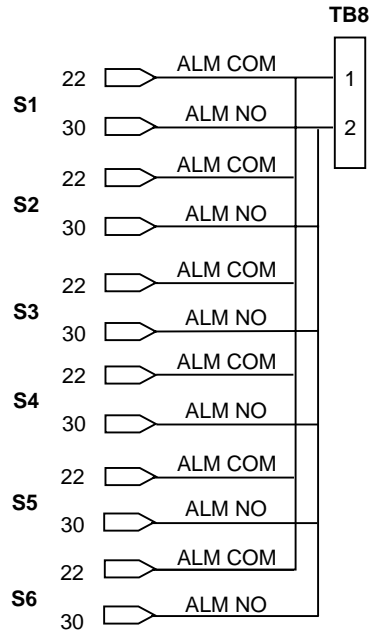

Figure 13. System Alarm (TB8) Pin Assignments
When HLU-431 or HLU-432 line units are installed in the HRE-206, the system alarm relay contacts for each slot, Normally Open (NO) and Common (COM), are bused together and made available on the Euro style terminal block TB8. Figure 13 shows the TB8 pin assignments.